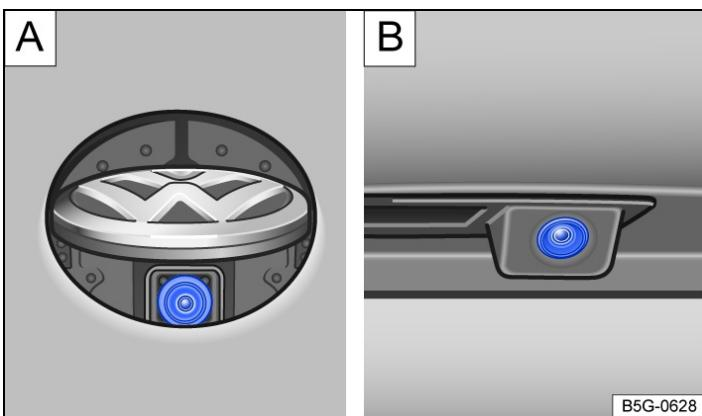

Fig. 2 In the rear of the vehicle: rear view camera **A** in the Volkswagen badge or **B** in the number plate light (illustration).
*In vehicles with rear view camera in the rear Volkswagen badge → Fig. 2 A:*